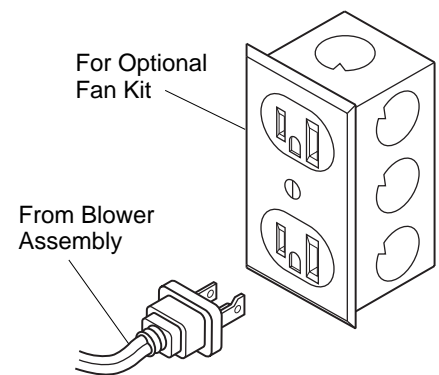

Figure 34 - Connecting Blower Accessory to Power Supply
- Plug blower with speed control assembly into a power source. Keep hands clear of fan when running. **Note:** An outlet box with two receptacles has been supplied for your convenience, located on the lower left side of the appliance (see Figure 34). An optional remote control may be installed at any time.